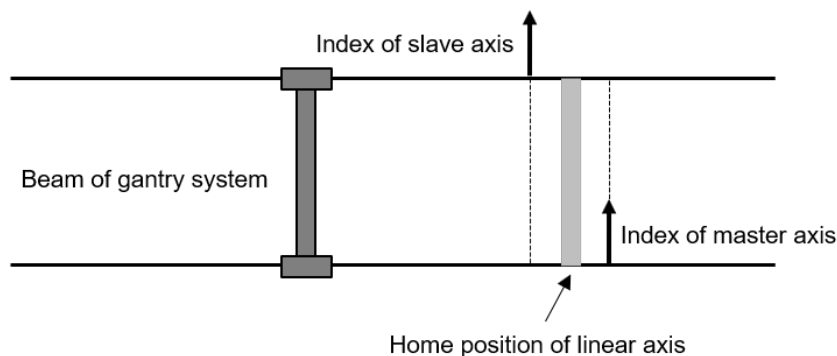

Figure 6.10.1
2. On gantry mode, Touch Probe value is not the index position of any single axis. Instead, it is the center point of both axes' index positions, as figure 6.10.1 shows.